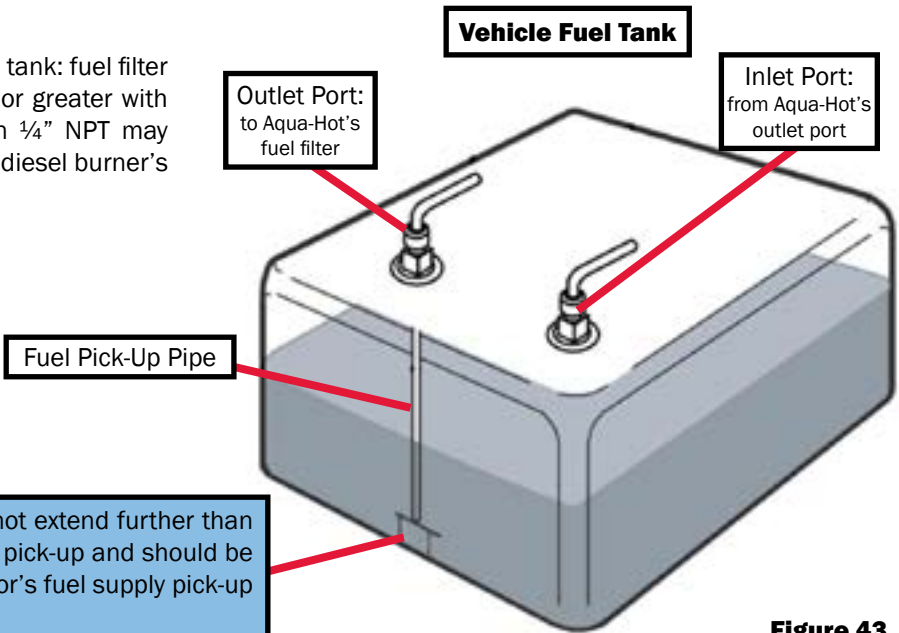

Figure 43
- The fuel tank should be equipped with a dedicated fuel pick-up pipe (outlet and inlet port). Reference Figure 43.